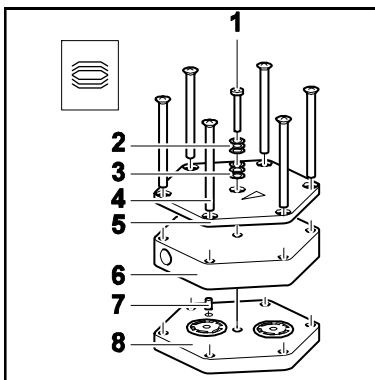

Fig. 8: Refitting pump head
1. On the pneumatic head connection (3), loosen the union nuts (2) by hand. Then slightly loosen the angle-fitting (1) in the pump head (4) by turning it anticlockwise, so that the connecting tube can be pulled out.
2. Mark the position of top plate (Fig. 8/5), head plate (Fig. 8/6), intermediate plate (Fig. 8/8) and adapter relatively to each other by a drawing line (for two-headed pumps: at both pump heads) with a felt-tip pen (1). This helps to avoid incorrect assembly later.
3. Loosen the outer screws (5) on the pump head/pump heads.
2. Place the intermediate plate (8) with valve plates/sealings on the adapter in accordance with the felt-tip pen marking.
3. Place the head plate (6) on the intermediate plate (8) in the position indicated by the guide pin (7).
4. Place the top plate (5) on the head plate (6) in accordance with the felt-tip pen marking.
5. Gently tighten screws (4) in diagonal order.
6. Insert screw(s) (1) with disk springs (2, 3) in the center of the top plate (5). In doing so, make sure that the disk springs are arranged properly (see Fig. 8).
7. Screw in the screw/screws (1) in the centre of the pump top plate (5) until it is flush with the top plate (they are flush with the top plate); then screw one final half turn to tighten.